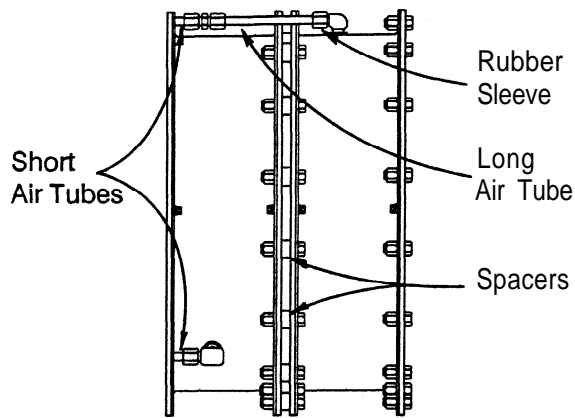

Fig. 11
2.6.6 Align the air connections and reassemble the element halves, making sure the spacers are in place between the elements. See Figure 11.
2.6.7 Reassemble the air connection tubes. If an elbow has been removed, use a good quality pipe sealant on the threads. See Figure 11.